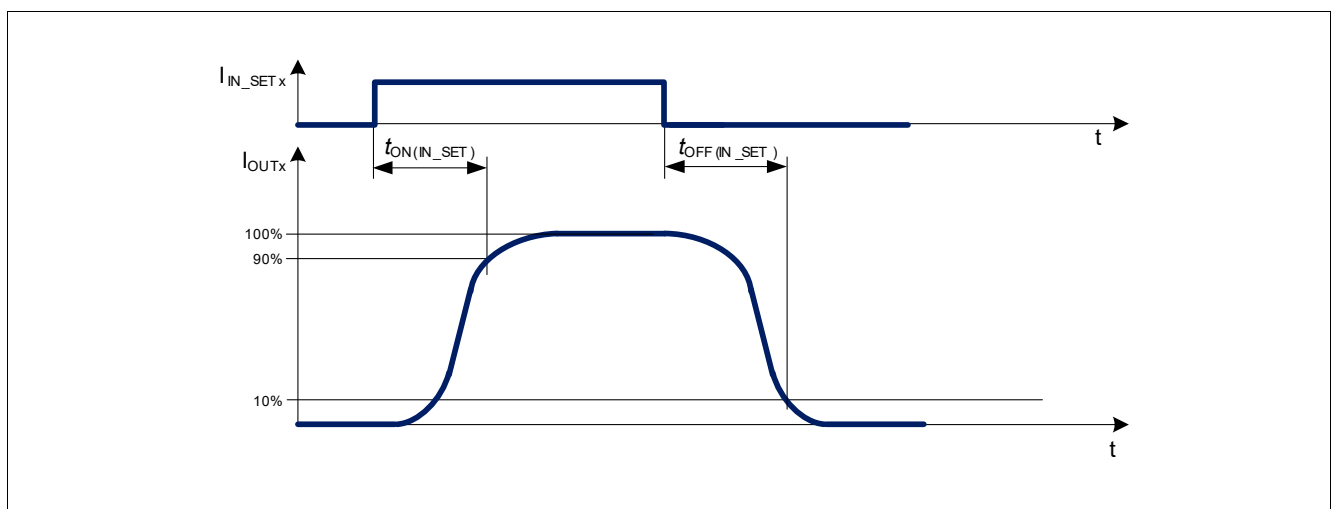

Figure 10 IN\_SET turn on and turn off delay timing diagram
In the following diagrams (Figure 10) the influences of input on output deactivation delays are shown.
2) Refer to Figure 10